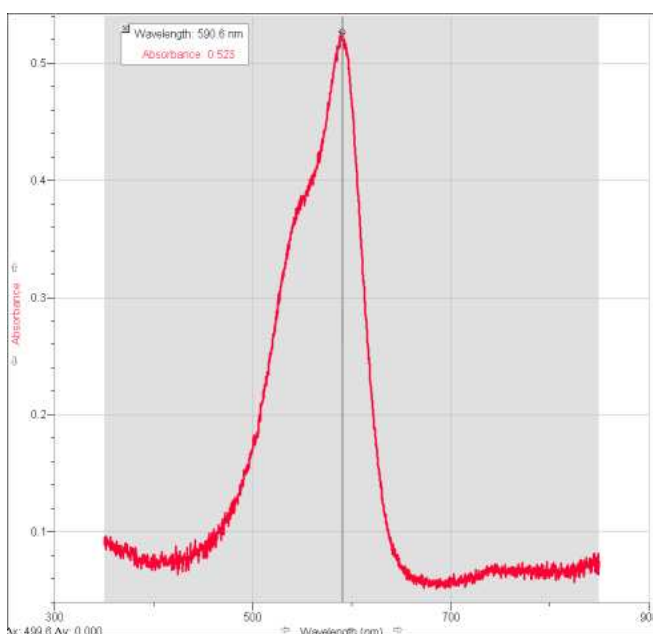

Figure 3. Spectrum of Crystal Violet with the Examine Tool.
2. You can read the absorbance using the Examine tool, by clicking on . Then move the cursor along the spectrum. The wavelength and absorbance will be displayed in the new dialog box in the data window, Figure 3. Determine the wavelength of maximum absorbance. Use this wavelength throughout your experiment.